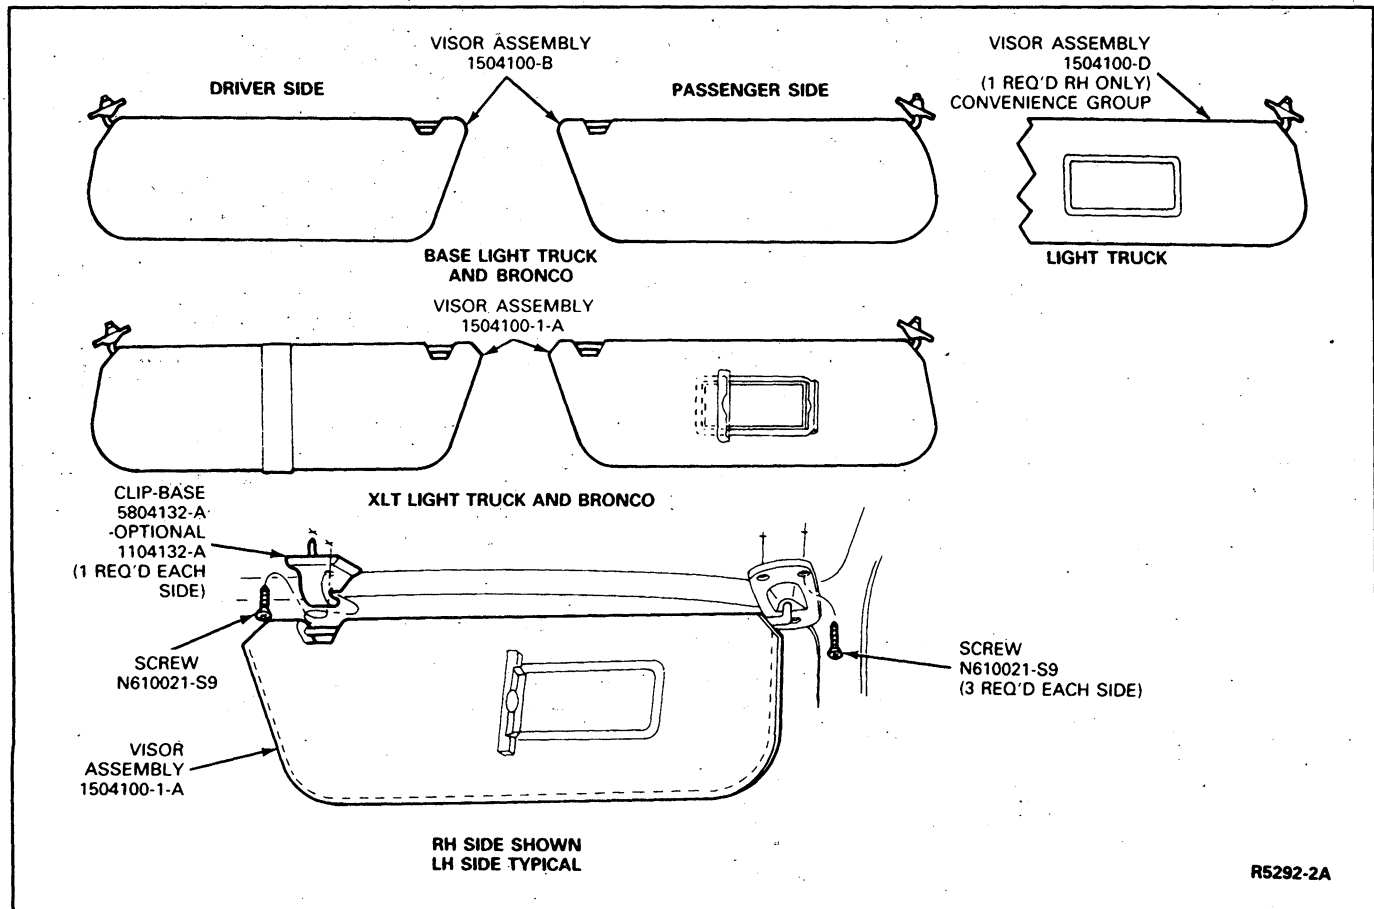

FIG. 10 Sun Visors—F-150—F-350 and Bronco
1. Remove both sun visors and retainer clips (Fig. 10).